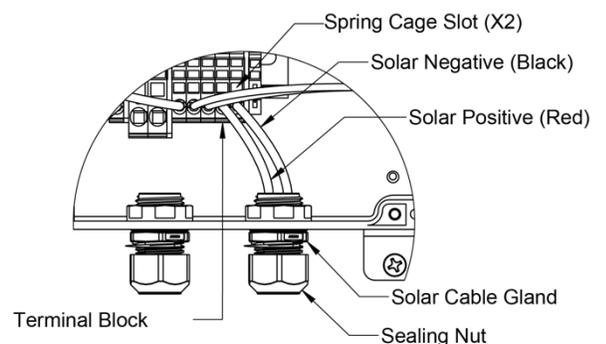

FIGURE 8
8. Cut back the split tube from the harness so the solar wires can be inserted through the solar cable gland (right) and the split tube is as close to the gland as possible. (Figure 8)
10. Strip back the solar wire insulations 3/8" (10mm). Use a small flat screwdriver, inserted into the spring cage slot, as a lever to disengage/engage the wire clamping mechanism and insert the bare wire into the terminal block. Ensure the solar positive wire (red) is inserted into the red terminal block and the negative wire (black) is inserted into black terminal block. (Figure 8)